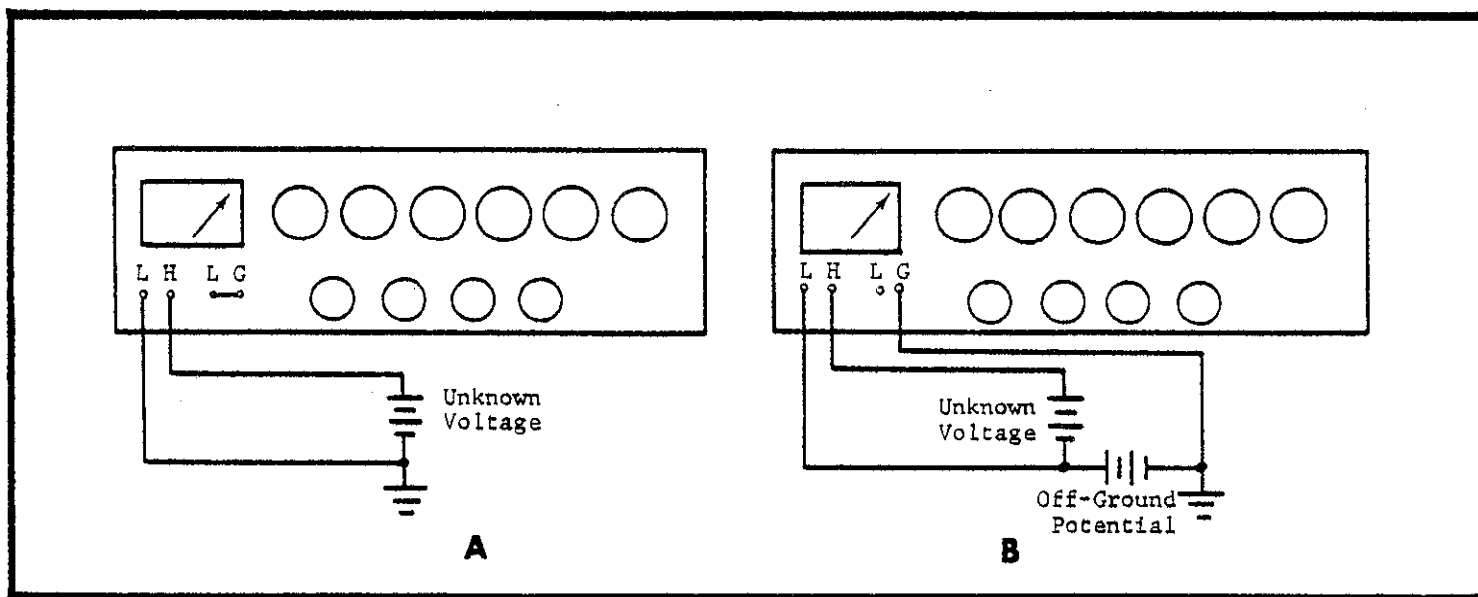

FIGURE 4. Input Connections to Model 662. The two diagrams show the input circuit for measuring at ground and for floating.
2. Connect the unknown voltage to the input terminals, using the LO Post for the low impedance terminal of the unknown. Refer to Figure 4.